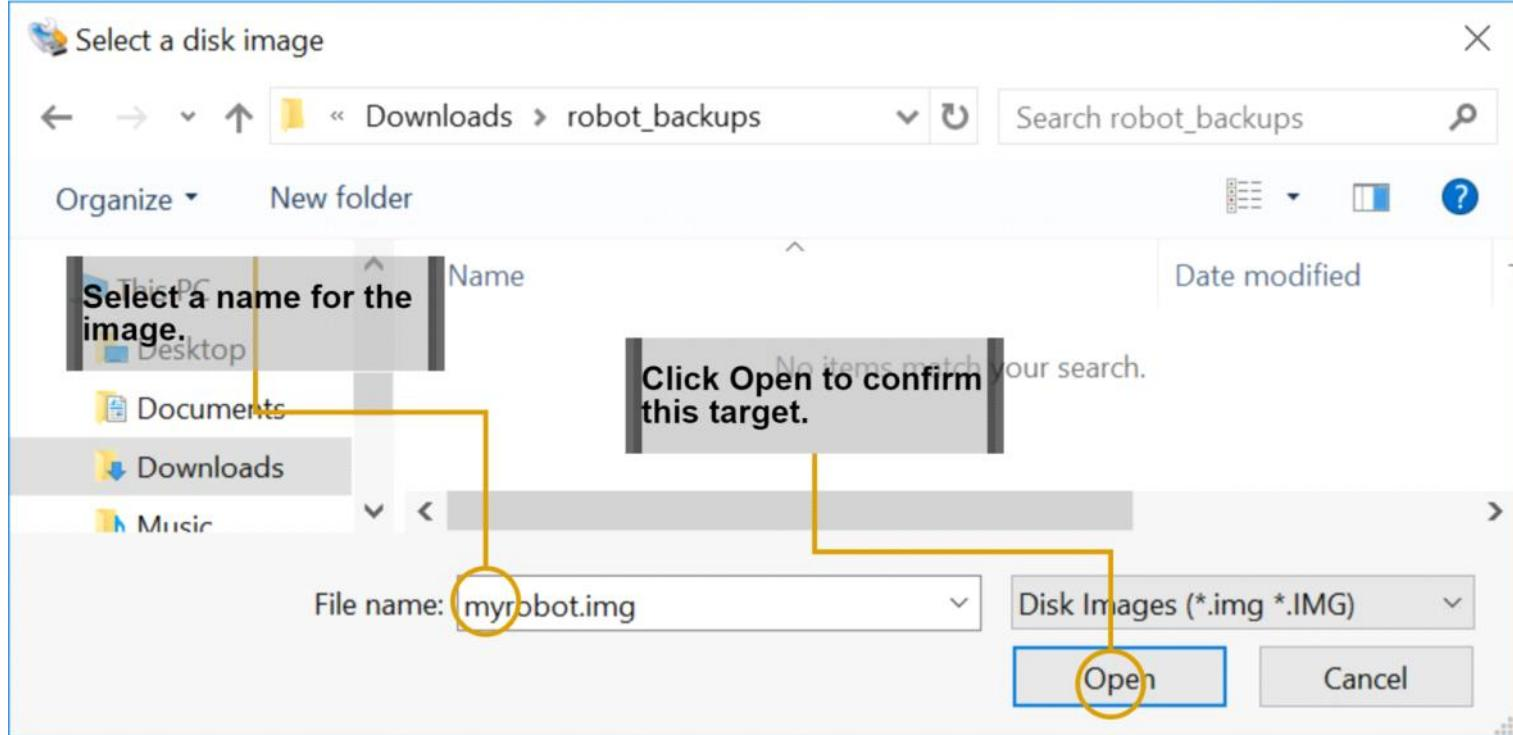

Figure 5.5 – Choose the location
4. In *Figure 5.5*, I name my image **myrobot.img** in the **File name** box. You then click the **Open** button to confirm this: